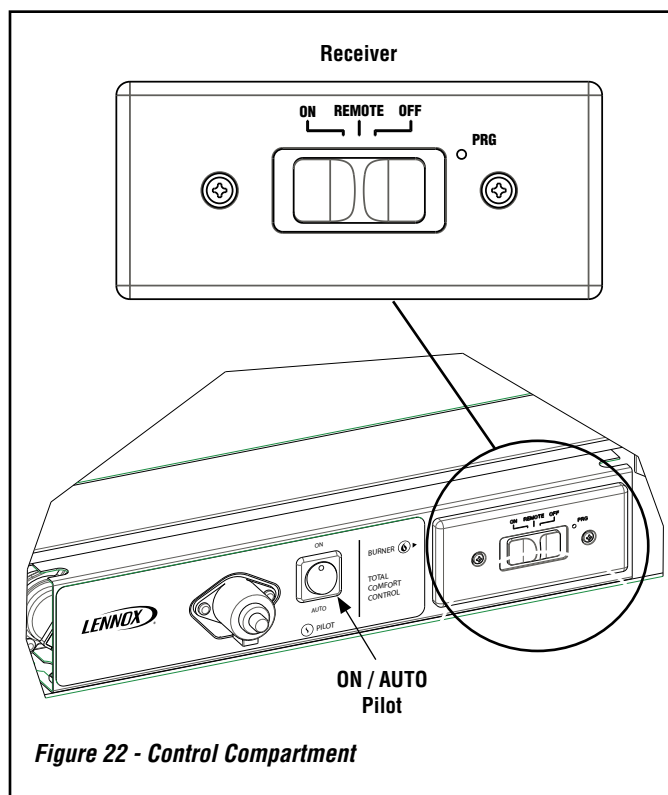

Figure 22 - Control Compartment
Place the 3 position slider switch in the "Remote" position (see *Figure 22*). Using the end of a paper clip, or other similar object, insert the end of the paper clip into the hole marked "PRG" on the Receiver front cover. The Receiver will "beep" three (3) times to indicate that it is ready to synchronize with the Remote (transmitter).
Note: The blower can be controlled only by the remote. Turning the appliance off with the unit mounted three position slider switch (**Figure 22**) will NOT turn off the blower. To turn off the blower, use the remote in lieu of or prior to shutting the appliance off at the three position slider switch (**Figure 22**).